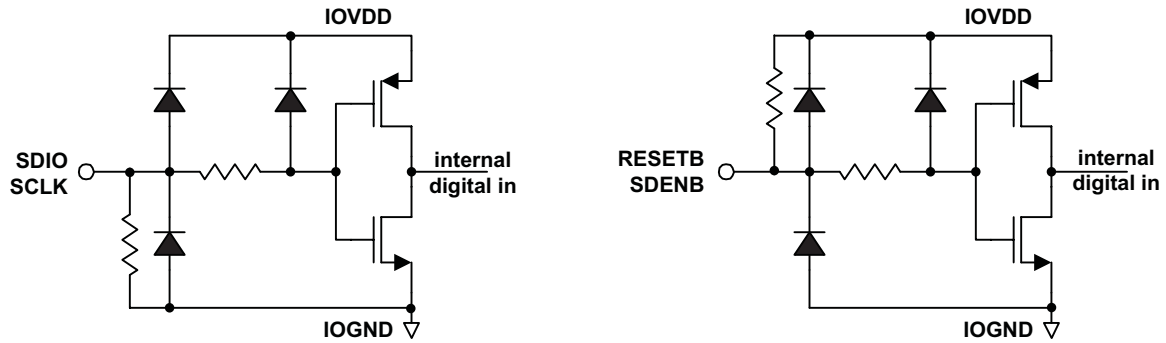

Figure 29. CMOS/TTL Digital Equivalent Input
**Figure 29** shows a schematic of the equivalent CMOS digital inputs of the DAC5681. SDIO and SCLK have pull-down resistors while RESETB and SDENB have pull-up resistors internal the DAC5681. See the specification table for logic thresholds. The pull-up and pull-down circuitry is approximately equivalent to 100k $\Omega$ .